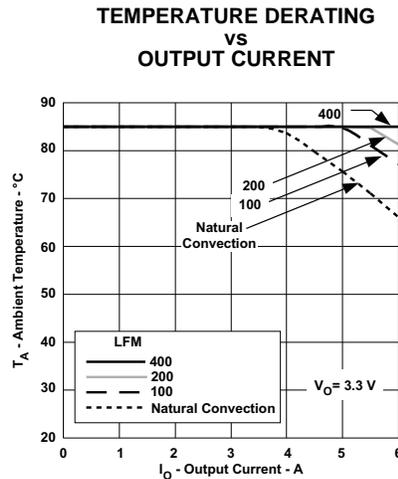

Figure 4.
- (2) SOA graphs represent the conditions at which internal components are at or below the manufacturer's maximum operating temperatures. Derating limits apply to modules soldered directly to a 4 inches × 4 inches double-sided PCB with 1-oz. copper. For surface mount packages (AS and AZ suffix), multiple vias (plated through holes) are required to add thermal paths around the power pins. Please refer to the mechanical specification for more information. Applies to Figure 4.